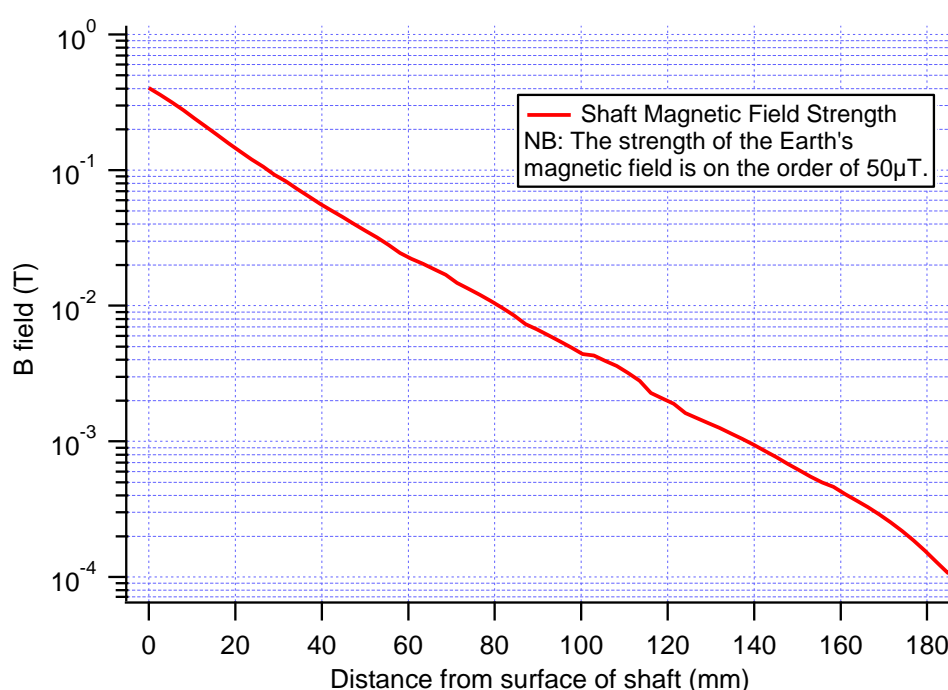

Figure 4-1 – Shaft magnetic field strength with distance
4. When using a magnetic position sensor ensure that it is located far enough from the shaft that the magnetic field is within the working limits of the sensor. The shaft field strength as a function of distance from the shaft in isolation is shown in Figure 4-1.
Note that Figure 4-1 shows field strength from the shaft in isolation, however when integrating into machinery the presence of ferrous materials can affect the distribution of magnetic fields. It is the responsibility of the equipment/machinery builder to undertake any required risk assessments relating to the presence of strong magnetic field around their machine. After installation of the LinX motor into a machine the local magnetic field strength can be easily checked using a hand held gauss meter to ensure it is within an acceptable level.